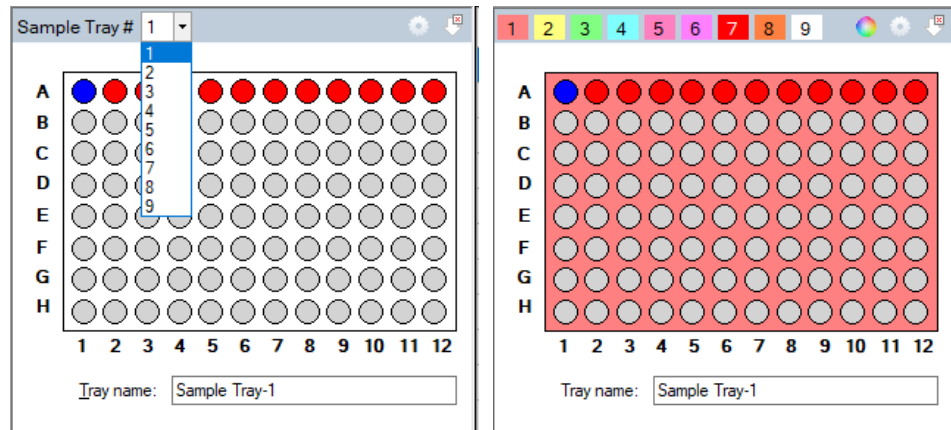

Figure 37 Classic drop-down tray selection (left) or colored tab tray selection (right)
Select the sample tray to be used from either the **Sample Tray #** drop-down list or the colored tab tray selection, depending which configuration is set (**Figure 37**).
- 2 Choose between the sample tray drop-down list or the colored tab tray selection (**Figure 37**).
- 4 To select a row from the 96-well plate depicted in the sample and sample tray selection window, left-click once in that row (**Figure 37**). To select a new row, left-click on another row.
5 To clear a row selection, select  (Figure 37).
The **Tray name** dialog box allows you to input a name for the tray being run (Figure 37). Alternatively, select this dialog box and use a bar-code scanner to import sample names for the plate being run. For more information, refer to **Chapter 9**, “ZAG DNA Analyzer Software – Sample Name Entry”.